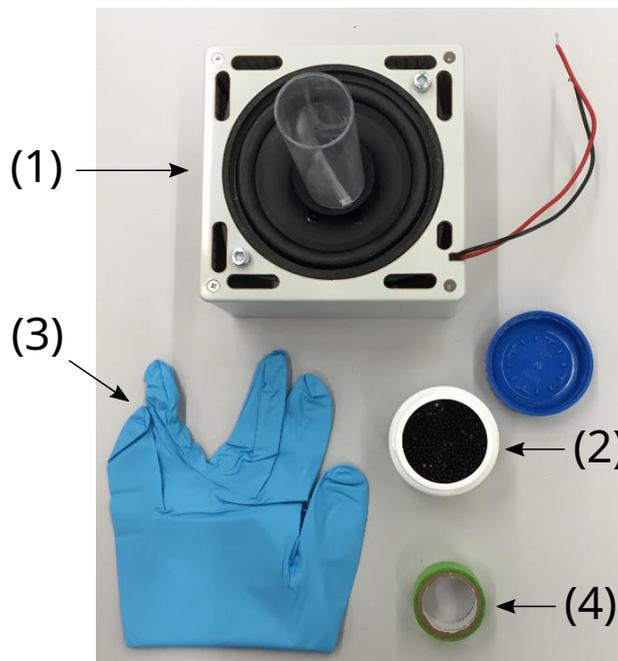

Figure 2 : Additional equipment for this experiment.
- The amplitude of the saw-tooth signal can be adjusted using the right potentiometer labeled speaker amplitude (4). A DC voltage proportional to the signal amplitude is output on the speaker amplitude
monitor socket (6) (with respect to the GND socket (7)). The numbers refer to the photograph (Figure 2) shown in the general instructions.